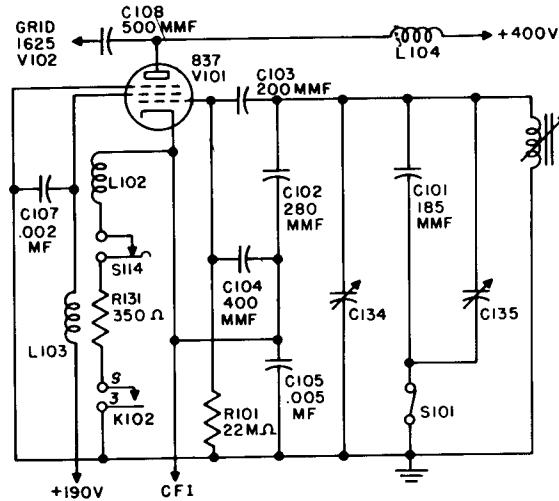

Figure 4-14. High Frequency Oscillator Circuit
b. HIGH-FREQUENCY OSCILLATOR CIRCUITS.—The HF oscillator (figure 4-14.) employs a pentode Type 837 tube, V101, in a variable frequency oscillator circuit operating within the frequency range 1000 kc to 1510 kc. This frequency range is covered in two bands, 1000 kc to 1200 kc and 1200 kc to 1510 kc. The band of frequencies within which output is obtained, is dependent on the position of HF oscillator range switch S101 which is operated by Control "A". Capacitors C101 and C135 are connected in the grid circuit of the HF oscillator tube, V101, by HF oscillator range switch S101. Alternate positions of Control "A" add or remove the padding capacitors C101 and C135. With Control "A" in the 2.0 MC to 2.4 MC position HF oscillator range switch S101 is closed, giving the maximum grid circuit capacitance and consequently the lowest frequency output. Refer to the Oscillator calibration curves, Section VI, figure 6-2. Therefore, when Control "A" is in the 2.0 MC to 2.4 MC position, oscillator output is obtained in the frequency range 1000 kc to 1200 kc. When Control "A" is rotated to the 2.4 MC to 3.0 MC position, HF oscillator range switch S101 is opened, removing capacitors C101 and C135 from the circuit, and oscillator output is obtained in the frequency range 1200 kc to 1510 kc. When Control "A" is operated to the 3.0 MC to 3.6 MC position, HF oscillator range switch S101 is again operated to the closed position and oscillator output is obtained in the frequency range 1000 kc to 1200 kc. In the remaining nine HF positions of Control "A", HF oscillator range switch S101 is alternately opened and closed to give oscillator output as indicated above. Trimming capacitors C134 and C135 have been provided to aid in setting the end-points of the two frequency bands. When setting the HF end of the 1000 kc to 1200 kc band,